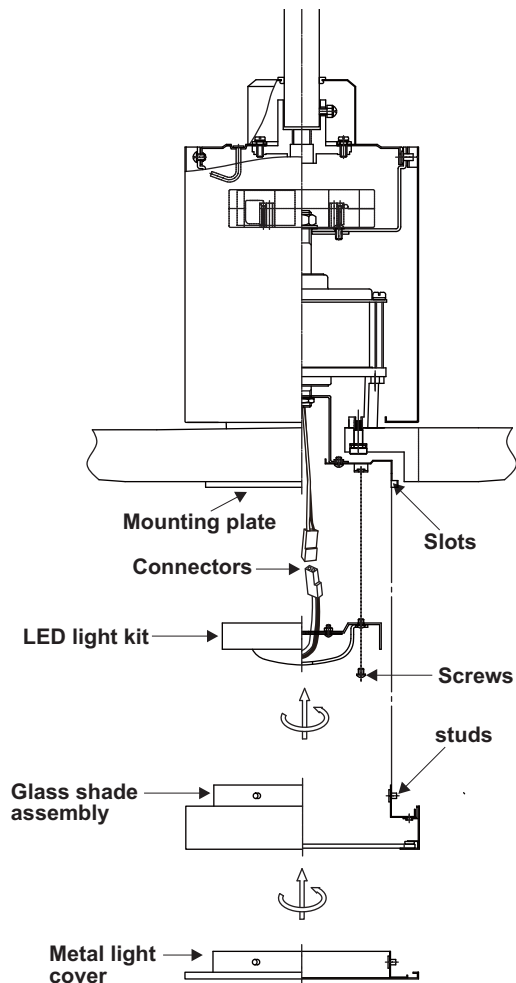

Figure 17
2. Raise and hold the LED light kit close to the mounting plate and proceed to do the wire connections. Make the 2-pin wire connections: (Fig. 17)
3. Place the key holes from the light kit over the 2 screws previously loosened from the mounting plate, turn the light kit until it locks in place at the narrow section of the key holes. Secure by tightening the 2 screws previously loosened and the one previously removed. (Fig. 17)